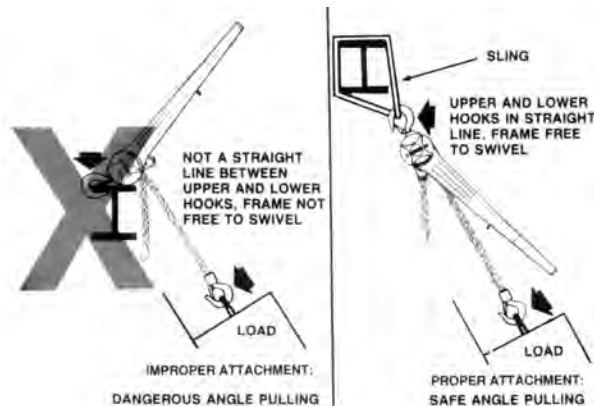

Figure 4. Angle Pulling
TO AVOID INJURY: RIG THE UNIT IN A STRAIGHT LINE HOOK TO HOOK MANNER AND KEEP FRAME FREE TO SWIVEL - SEE FIGURE 4.
RIG THE UNIT IN A STRAIGHT LINE HOOK TO HOOK MANNER AND KEEP FRAME FREE TO SWIVEL - SEE FIGURE 4.
**Attaching Load** - As discussed in installation section, attach load so that upper and lower hooks are in a straight line with the frame free to swivel on upper hook. If proposed use prevents straight line attachment, use an Anchor Sling (see page 2) or chain sling to obtain a straight line pull. Refer to Figure 4.
13. Do not operate the hoist unless it is rigged to pull in a straight line from hook to hook, and the frame is free to swivel on the upper hook. Refer to Figure 4.